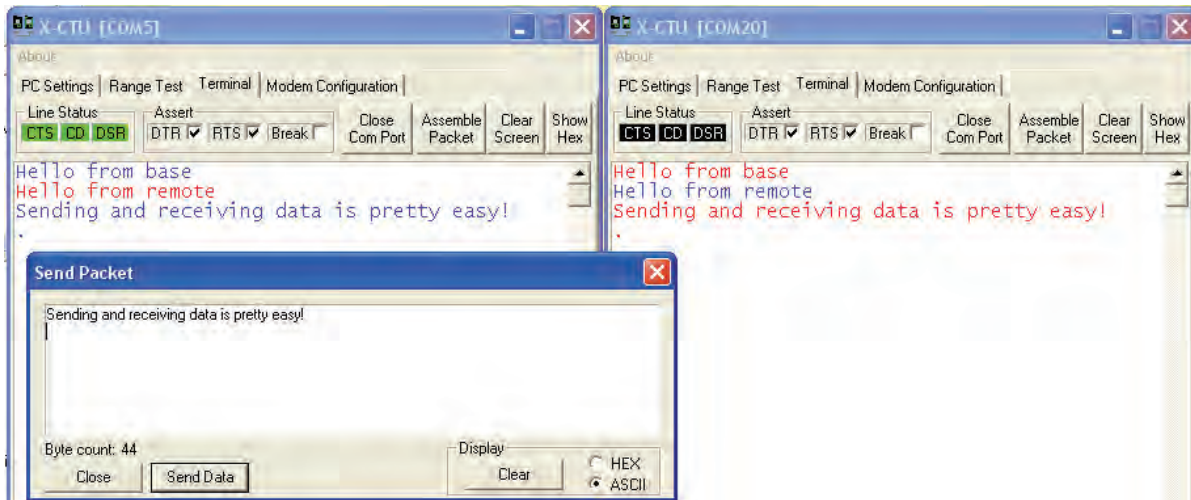

Figure 4-11: Serial Pass Through Chatting
- ✓ Test using the Send Packet window as well, as shown in Figure 4-11.